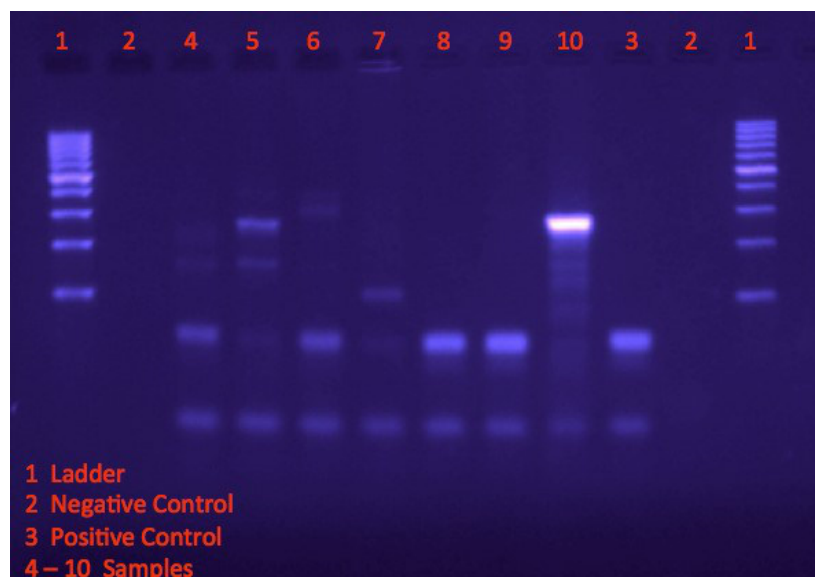

Figure 1. Visualizing bands on agarose gel following electrophoresis.
8. Analyze the band size and positions on the gel. Compare the band positions of the samples to the positive control to determine if DNA from the organism of interest is present in the sample (**Figure 1**).
In **Figure 1**, the DNA ladder (lane 1) provides a reference for the size and approximate concentration for bands of the PCR products. The negative control (lane 2) does not contain any genetic material, while the positive control (lane 3) is amplified from templates known to contain the target DNA to indicate size and location of target bands. Samples 4, 6, 8, and 9 exhibit similar band pattern as the positive control, therefore indicating that these samples contain the target genetic material. It can be inferred that the organism is present in the environments from which these samples were obtained.